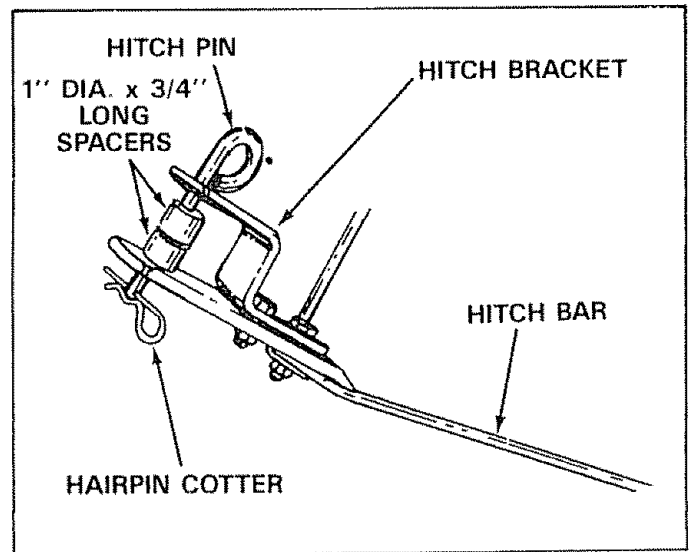

FIGURE 8
- Assemble the hitch pin, two 1" Dia. x 3/4" long spacers and hairpin cotter to the hitch bracket and hitch bar. See figure 8. See page 10 for adjustment before connecting lawnsweeper to your Sears riding mower or tractor.